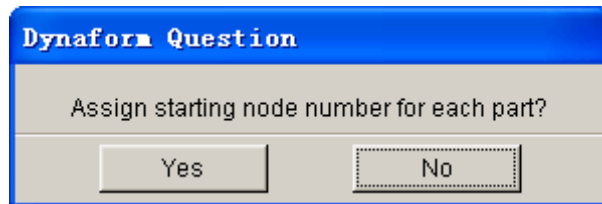

Figure 5.4.4 Starting Node Number Question dialog box
- An eta/DYNAFORM QUESTION dialog box as illustrated in Figure 5.4.4 is displayed.